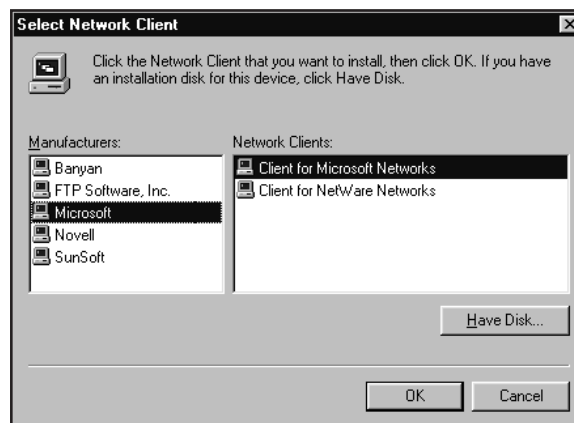

Figure 192 Select Network Client
1. A network client must be added to the list of network components. Use the Add pushbutton to bring up the Select Network Component Type dialog. Highlight Client from the Network Component Type list and press Add to see a dialog as shown in Figure 192.